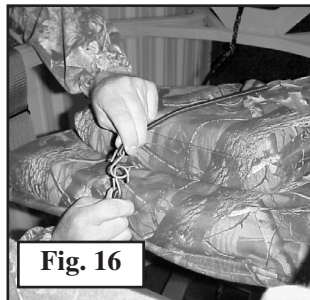

Fig. 16
Step 2. Disconnect the elastic cord that has been holding the Viper Ultra Seat in place and fold the seat up. Secure the back-rest and seat as shown in **Figure 16**. Disconnect the strap that has held the seat in place against the tree.